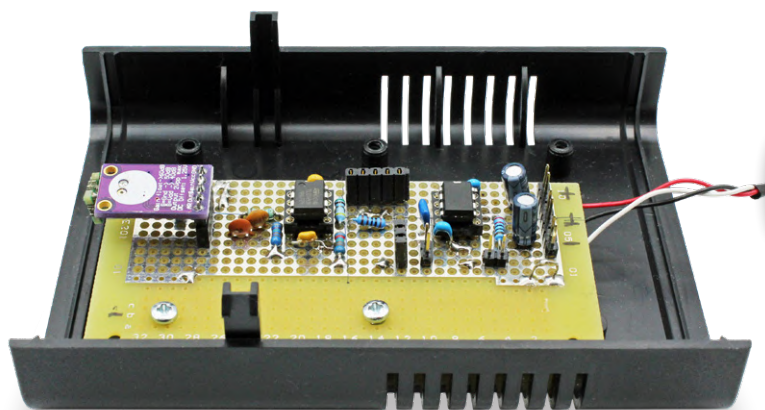
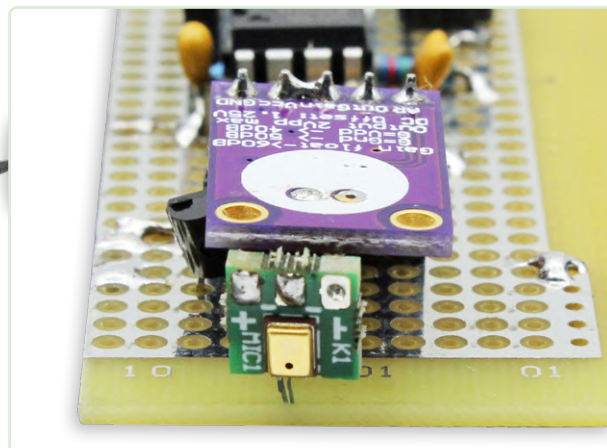

Figure 2: The prototype of my repurposed bat detector built into a plastic casing.
Figure 3: The SPU0410HR5H microphone connected to the MAX9814 module from Adafruit.
**Figure 2** shows my prototype in its plastic casing. **Figure 3** shows how I connected the new microphone to the module board of the MAX9814. The real measurement in the car is shown in **Figure 4**. **Figure 5** shows the oscillogram of the measured signal of a functioning sensor.